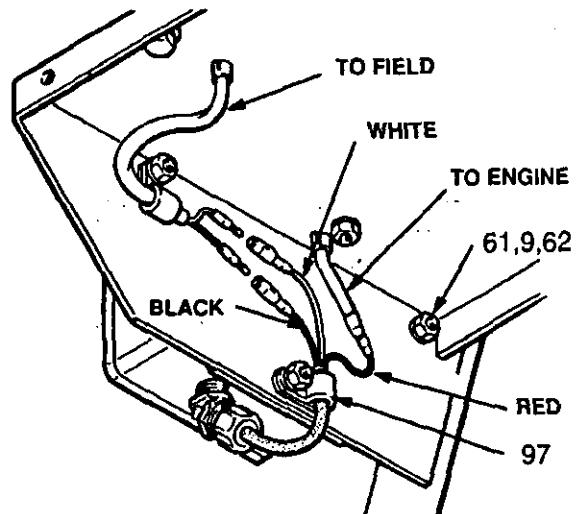

Fig 19-2
2. Working under the engine mounting plate of the cart, disconnect the red, black and white wires. Then remove the three nuts (61) and lockwashers (9) from the capscrews (62), which hold the pressure control bracket (67) to the cart. Remove the pressure control. See Fig 19-2.